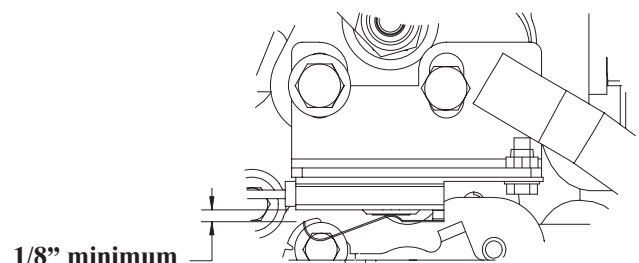

Figure 11
10. To check the position and the operation of the switch, depress the traction pedal fully in reverse and measure the gap between the arm and the switch body. The gap should be a minimum of 1/8" (Fig. 11).